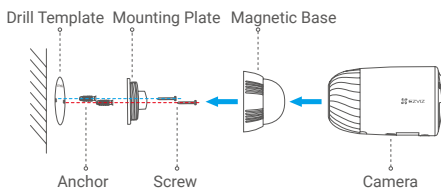
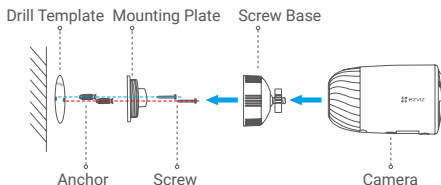

Fig.1 Mount by Magnetic Base
Fig.2 Mount by Screw Base
**Step 4** Rotate the magnetic base (Fig.1) or screw base (Fig.2) to the mounting plate.